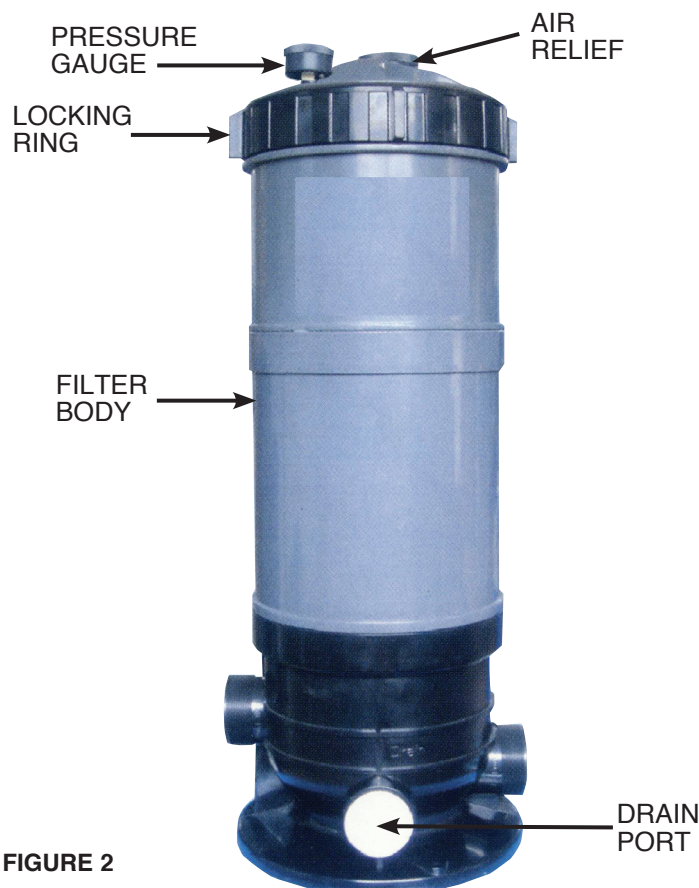

FIGURE 2
1. Tightly close plugs on Tank Drain Port (Figure 2).